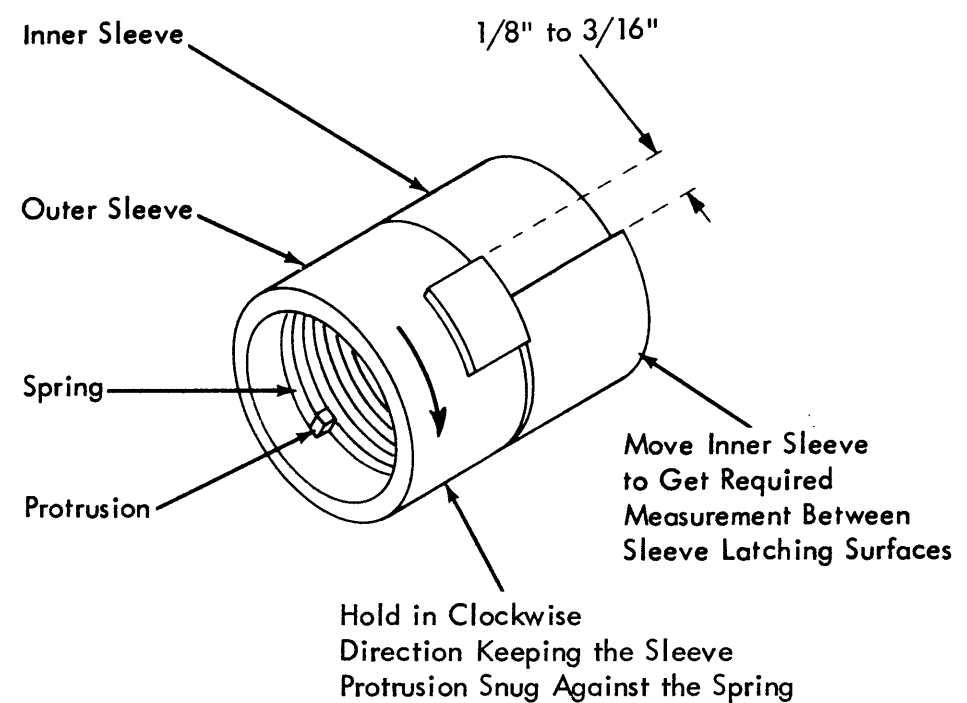

Figure 4-25. Punch Clutch Adjustment
4. Turn the outer sleeve clockwise against the spring (Figure 4-25). The sleeve moves very easily in a counterclockwise direction. Therefore, keep the outer-sleeve protrusion snug against the end of the spring to avoid a false indication of the latching surface distances.
5. Position the inner-sleeve latching surface behind the outer-sleeve latching surface as shown in Figure 4-25, and keep the clamping screw accessible.